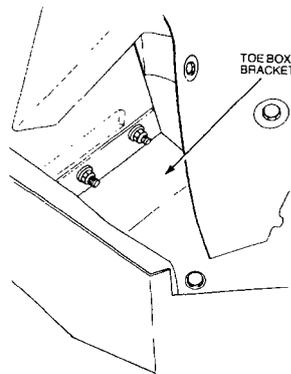

Figure 313 Removing the Toe-box Bracket
- aa. Remove the bolts securing the firewall toe-box brackets to the chassis (Figure 313) and using suitable overhead lifting equipment with a minimum safe working load of 500 kg, attach two slings to the windscreen mounting holes.
- q.** Install the two toe-box brackets and the packing pieces if necessary (Figure 313) and tighten the bolts, washers and nuts securely.